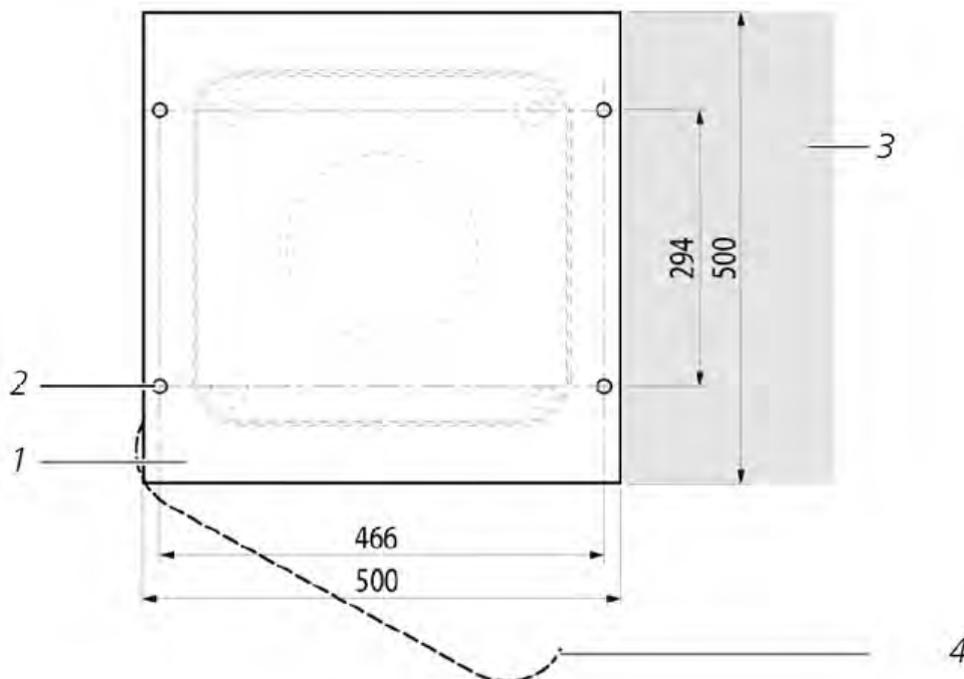

Figure 5 Drilling template.
The CHM 8k requires an installation area of 50 x 50 cm. It must be stable, firmly installed and mounted on an adequately sized concrete foundation. The inclination of the installation surface must not exceed 5 mm/m. Before installing the CHM 8k, holes must be drilled and dowels inserted in the concrete foundation (\varnothing 12 mm, 4 dowels are included in the delivery), in accordance with the drilling template (see Figure 5). It is important to pay attention to the opening direction of the exterior door to the operator's connection box.
- ⇒ Position the CHM 8k in the installation position (vertical) on the concrete foundation. It is important to pay attention to the position of the exterior door in relation to the operator's connection box (see Figure 5).